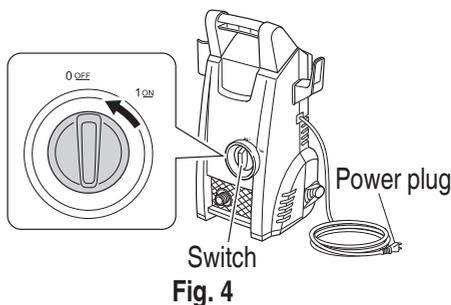

Fig. 4
1. Check to make sure the switch is at the “OFF” position (Fig. 4)